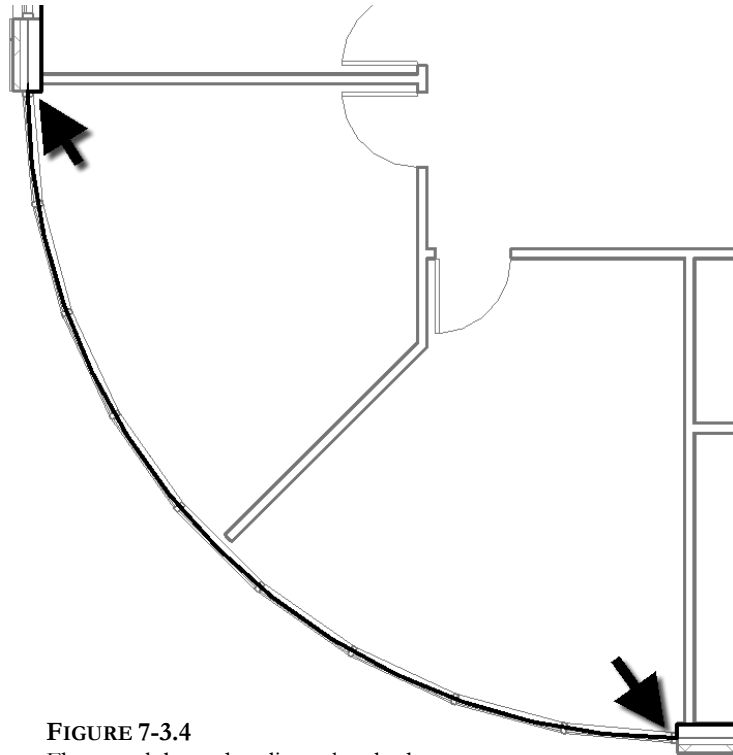

FIGURE 7-3.4
11. Sketch a line, using snaps, from the end of the arc to the adjacent wall sketch line (Figure 7-3.4).